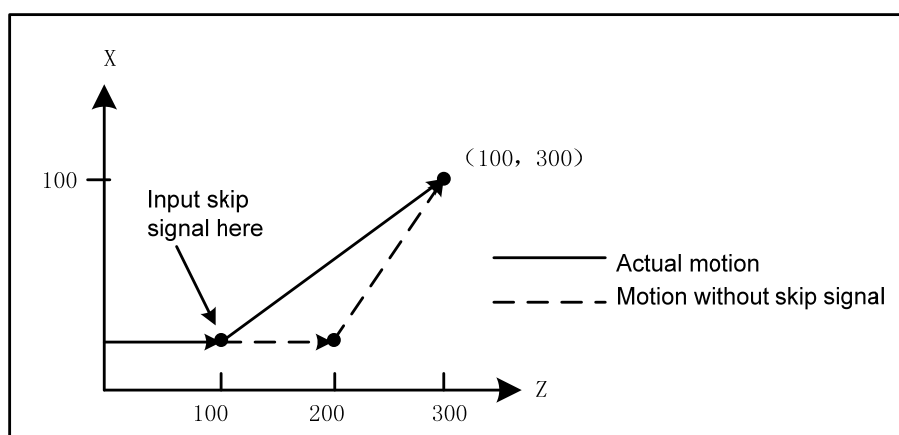

Fig. 3-53
3. The next block of G31 is the absolute coordinate programming of two axes shown in Fig. 3-53: